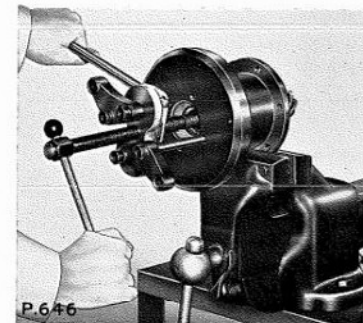

Fig. G.5. Withdrawing the driver coupling, using the Churchill Main Tool 55 in conjunction with the legs R.G.55-8 and the adaptor set R.G.55-10
1. Remove the driver coupling securing nut. Tap the coupling free using a soft faced hammer, or if a heavy interference fit with the pinion shaft is encountered, the coupling may then be withdrawn with the aid of Churchill Main Tool 55, the Legs R.G.55-8 and the Adaptor Set R.G.55-10 (see Fig. G.5).